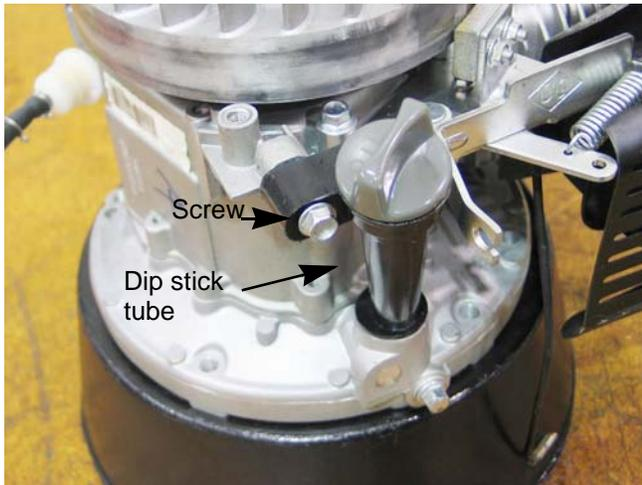

Figure 5.4
Some MTD engines come with a dip stick tube, depending on the application. See Figure 5.4.
2. Remove the screw at the top of the dip stick tube. See Figure 5.4.